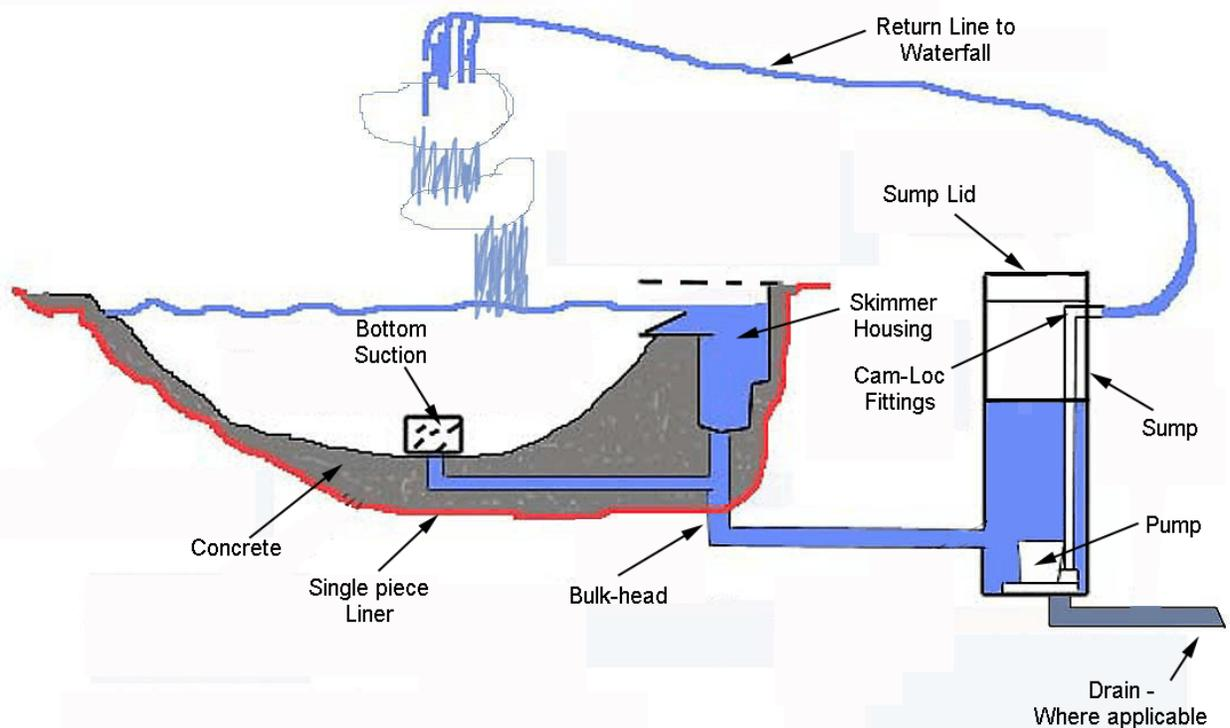

Figure 2
7. Install pump in sump and plug into electrical outlet. If there is a ball valve on the discharge line adjust water flow to maintain a slight back pressure on pump. This is done by partially closing valve as in the position of the light blue handle. (Figure 3) **DO NOT DROP PUMP INTO SUMP. DOING SO COULD CRACK PLASTIC SUMP FLOOR.** (Fig. 2)
3. **Outer Plumbing:** All of your system outside of the pond is engineered to be failure proof. It is a time tested design that we have used for over 20 years. The “outer plumbing” is everything outside of the liner from bulk-head. (See fig 2)